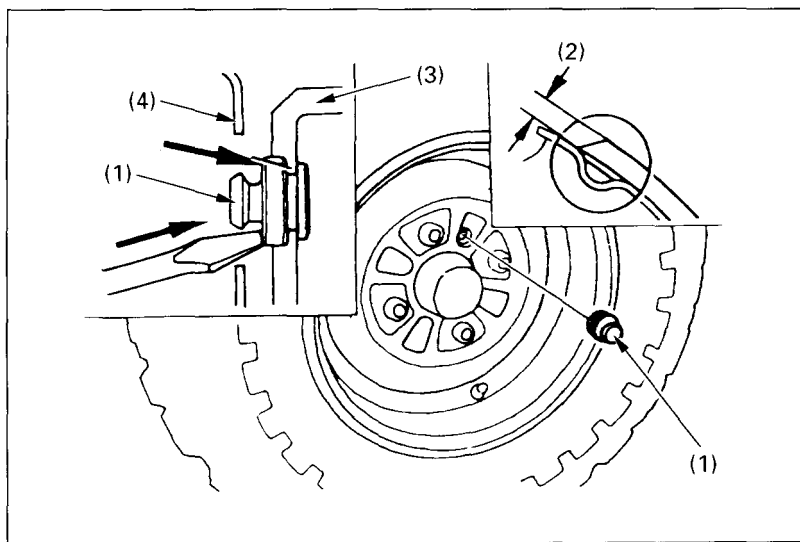
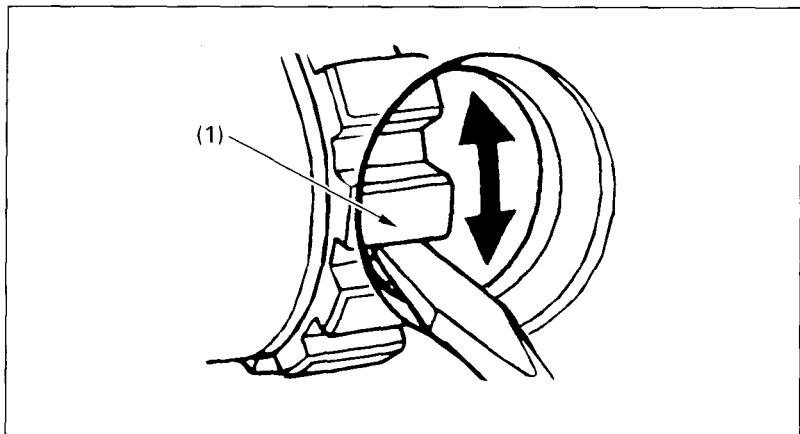

Fig. 4-22
Fig. 4-23
(1) Front brake lever
2. Remove the inspection hole plug (Fig. 4-22) and measure the lining thickness (2) on both front wheels.
3. If the brake lever free play and the brake shoe lining thicknesses are within the recommended limits, reinstall the inspection hole plugs, seating them into the inspection holes as shown in Fig. 4-22.
3. Beginning with either the left or right front wheel, remove the inspection hole plug (Fig. 4-22) and line up the hole with one of the brake adjusters (Fig. 4-23).
4. Using a screwdriver, turn the brake shoe adjuster (1) in the direction of the arrow until the front brake locks.
(1) Brake adjuster
7. Reinstall the inspection hole plug, seating it into the inspection hole as shown in Fig. 4-22.